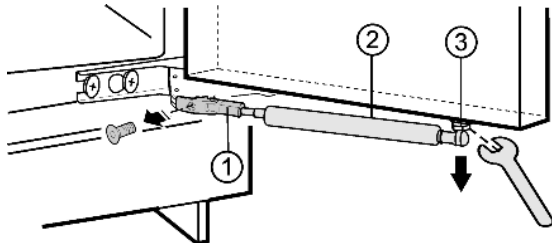

Fig. 3
- ▶ Unscrew holder Fig. 3 (1).
- ▶ Unscrew the ball stud Fig. 3 (3) together with the soft stop mechanism Fig. 3 (2) from the door and set it aside.